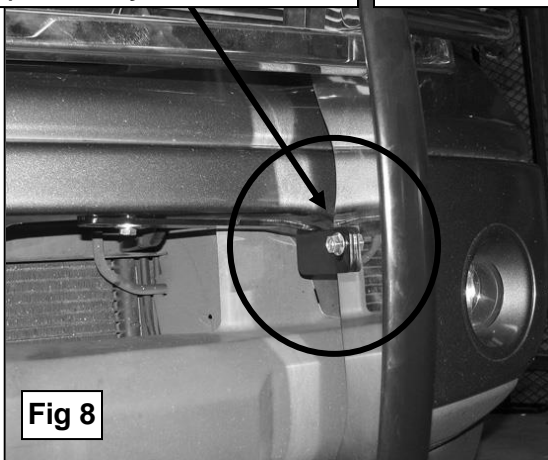

Fig 8
8. Push the Grille Guard back into position and line up the holes in the Top Brackets with the holes in the Grille Guard uprights. **NOTE:** It may be necessary to move the Top Bracket in or outward in the slots to line up properly with the Grille Guard. Attach the Top Brackets to the inside of the Grille Guard uprights using the included (2) 10mm Button Head Allen Bolts, (4) 10mm Flat Washers and (2) 10mm Nylon Lock Nuts, (**Figure 8**).